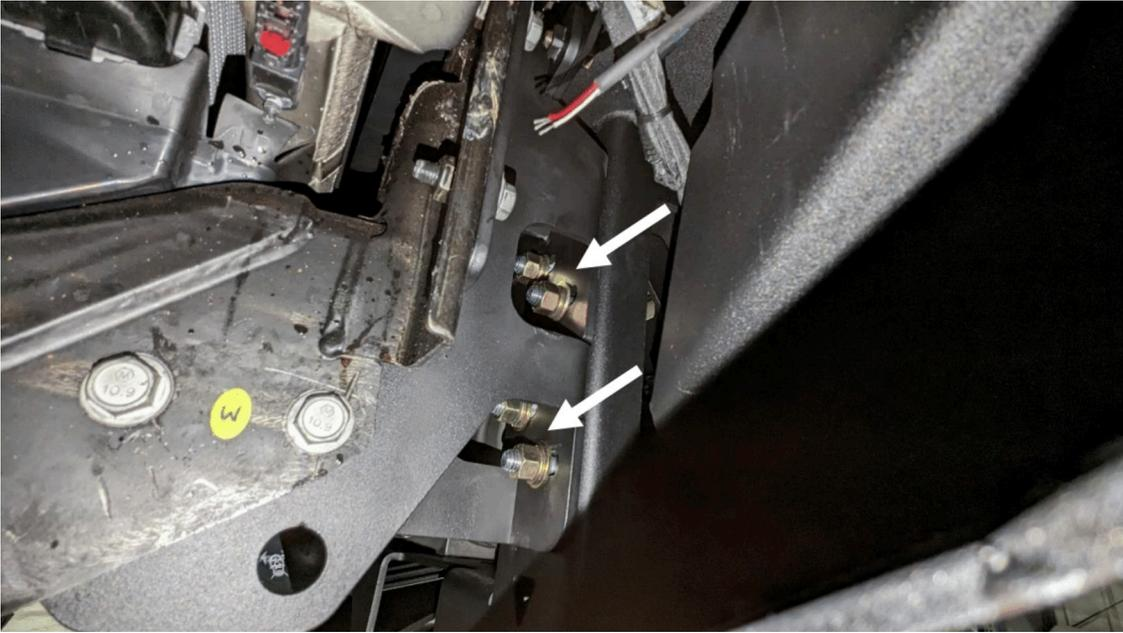

Figure 34
28. Install the bumper to the mounting brackets using the eight (8) provided flat washers, lock washers and hex nuts. Then, use a 3/4" combination wrench to tighten the hardware after aligning the bumper with the vehicle. (Figure 34)